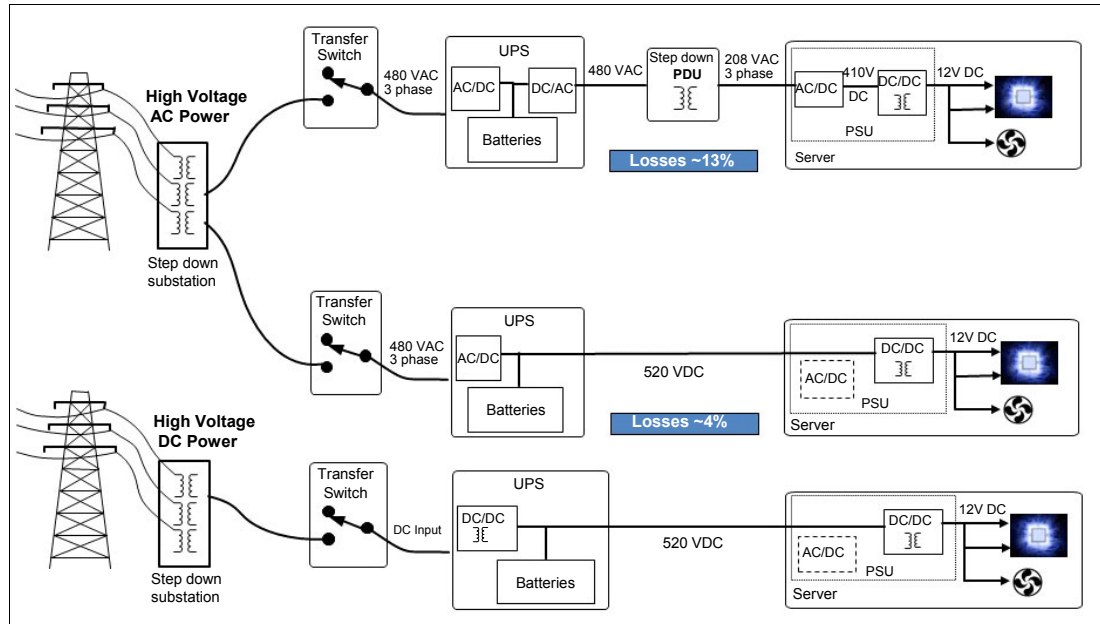

Figure 2-24 AC versus DC distribution
The High Voltage Direct Current power feature is an option for z13 servers. It allows z13 servers to directly use the high voltage (HV) DC distribution as shown in Figure 2-24. A direct high voltage DC data center power design can improve data center energy efficiency by removing the need for a DC to AC inversion step.